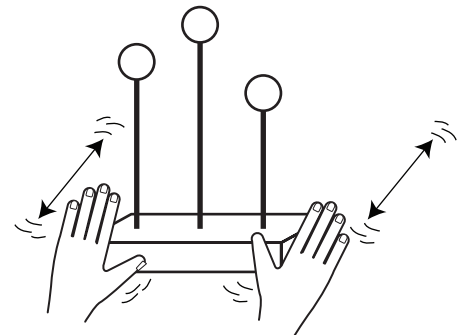

Figure 2.
2. Slowly slide the base forward and back as shown in Figure 2. Start with a low frequency and gradually increase the frequency until the tallest wire begins to resonate. Keep this frequency constant and observe the motion of the other two wires.